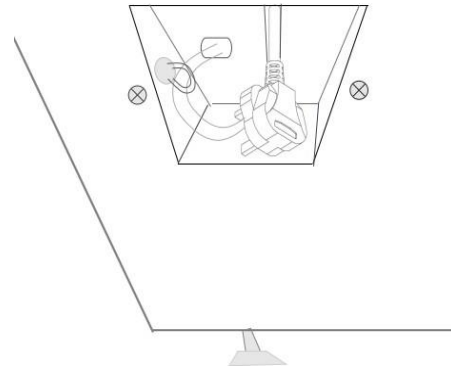

Figure 10.4.2 Power cord and protective slot
- 2) Put the power cord in the protective slot at the back of the vendor (refer to the figure 10.4.2);
1) Unplug the vendor from the power outlet. Roll up the power cord and put it in the protective slot(refer to the figure 10.4.2).